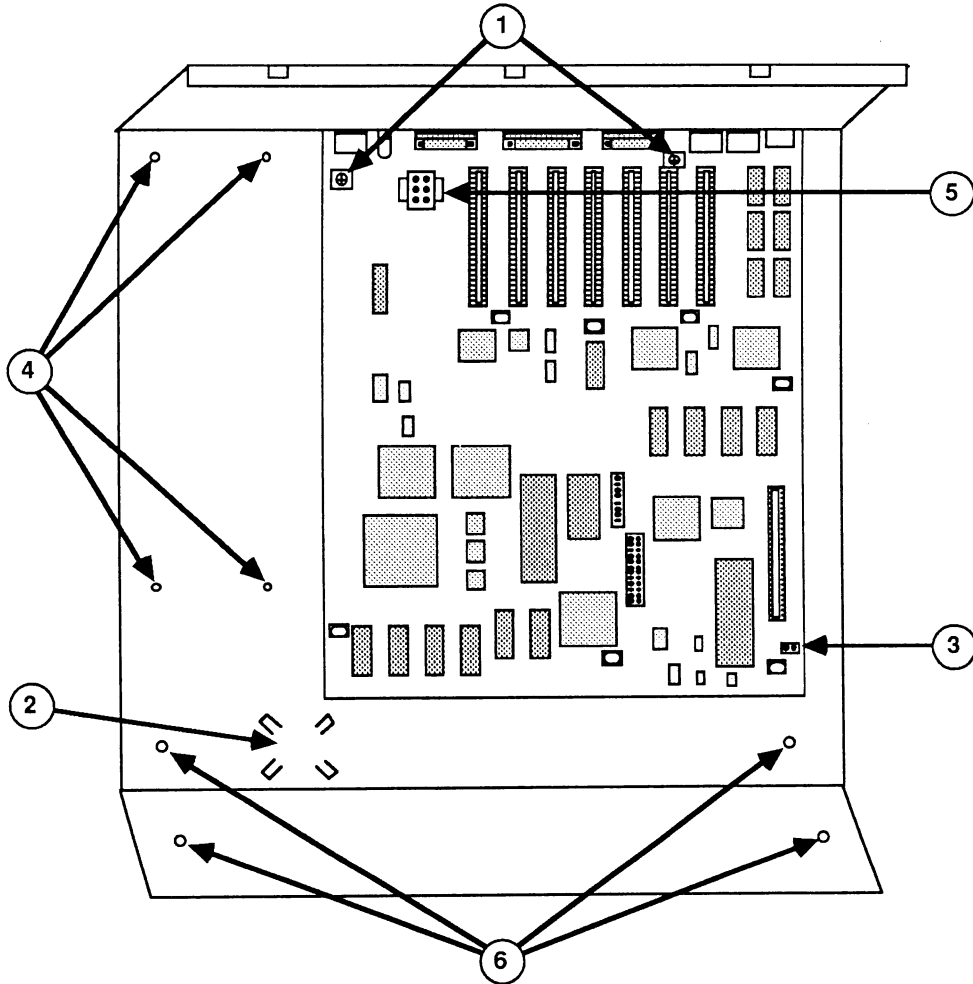

FIGURE 4
3. Install the Apple IIgs logic board onto the PCB supports on the new bottom pan. Install the two logic board mounting screws (Figure 4, #1).
4. Install the customer's speaker on the new chassis (Figure 4, #2).
5. Connect the speaker cable to its plug on the logic board (Figure 4, #3).
6. Align the screw mounts on the customer's power supply with the screw holes on the new bottom pan (Figure 4, #4). Insert and tighten the four power supply screws.
7. Connect the power supply connector to its socket on the logic board (Figure 4, #5).
9. Using four of the screws, install the brackets (one on each side) on the bottom pan (Figure 4, #6).